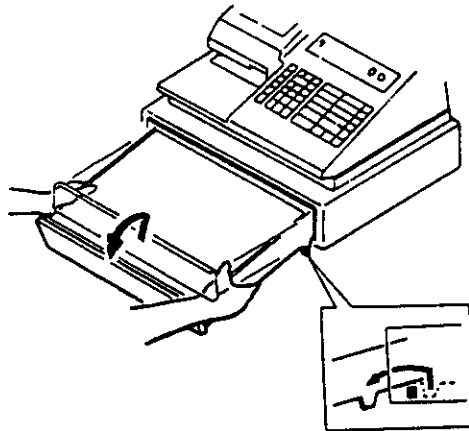
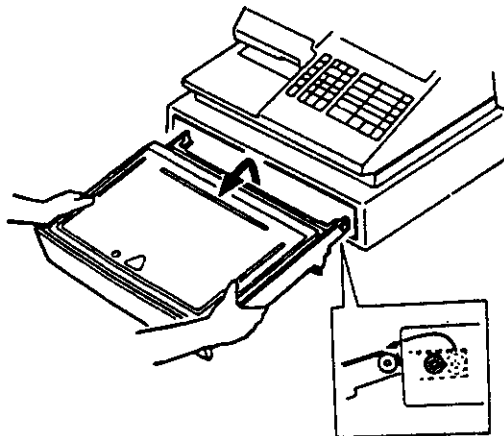

Fig. 2
Fig. 3
1. Pull the drawer out, and when it stops at the stopper, lift the drawer up and pull it further out (Fig. 2). When it stops again at the roller fixed in the drawer housing, lift it and pull it out (Fig. 3).